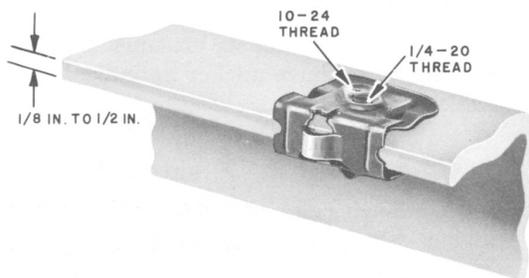

Fig. 9 — B Beam Clip, Top View
- Two holes are provided on one side of clip (Fig. 9). One hole accepts a 10-24 machine thread and the other a 1/4-20 machine thread. Clip may be equipped with, such material as M bridle ring, backboard, cable terminal box, etc.